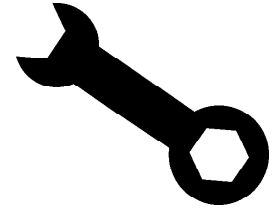

FIGURE 5.4A ADJUSTING GRAPPLE TINE HEIGHT
5. Remove pin keeper from cylinder and cylinder rod end pin. *See Figure 5.4A*